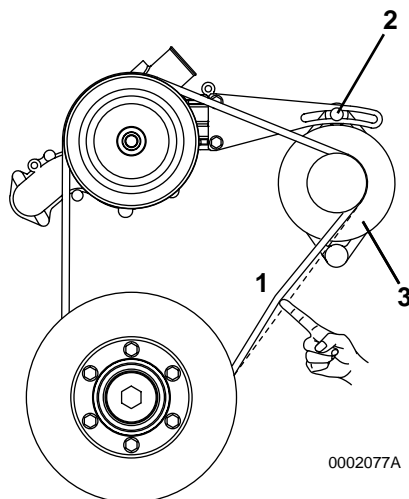

Figure 6
1. Check the tension of the V-belt by pressing on the middle of the belt (**Figure 6, (1)**) with your finger. With moderate force, the V-belt should deflect 8 - 10 mm (approximately 3/8 in.).
2. If the V-belt deflection is out of the limit, adjust the V-belt tension. Loosen the adjuster bolt (**Figure 6, (2)**) and move the alternator (**Figure 6, (3)**) to adjust the V-belt tension.
3. If the V-belt is damaged or worn, replace it. Loosen the adjuster bolt (**Figure 6, (2)**) and move the alternator (**Figure 6, (3)**). Remove belt from pulleys.
4. Install new belt per routing (**Figure 6**) and adjust the tension as shown in Step 2.